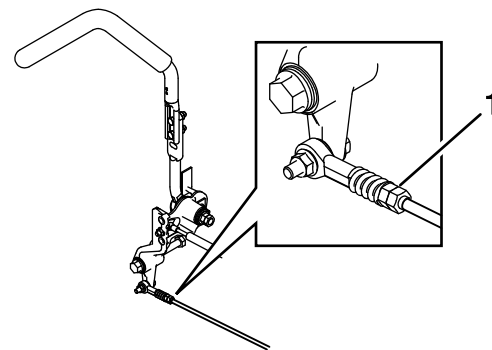

Figure 57
7. Bring the motion control levers into the neutral position. Adjust pump control rod lengths by rotating the double nuts on the rod in the appropriate direction until the wheels slightly creep in reverse (Figure 57). Move the motion control levers to the reverse position and while applying slight pressure to the lever allow the reverse indicator springs to bring the levers back to neutral. The wheels must stop turning or slightly creep in reverse.